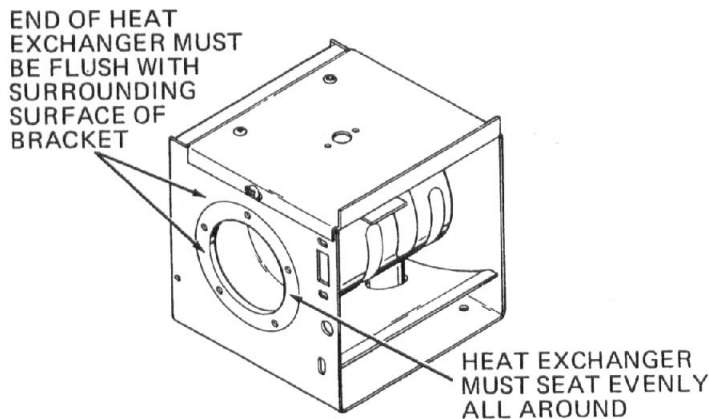

Figure 9. Heat Exchanger Installation
3. Installation. Installation is essentially the reverse of removal. Alignment between the heat exchanger and the bracket is critical to correct sealing of the burner head. Install the heat exchanger in the bracket and carefully align the open end of the heat exchanger with the hole in the bracket as shown in figure 9. At the same time, the exhaust outlet must be aligned with the hole in the bottom of the bracket, and the tapped hole in the back of the heat exchanger must be aligned with the hole for the attaching screw. Make sure all parts are aligned before installing the burner head.